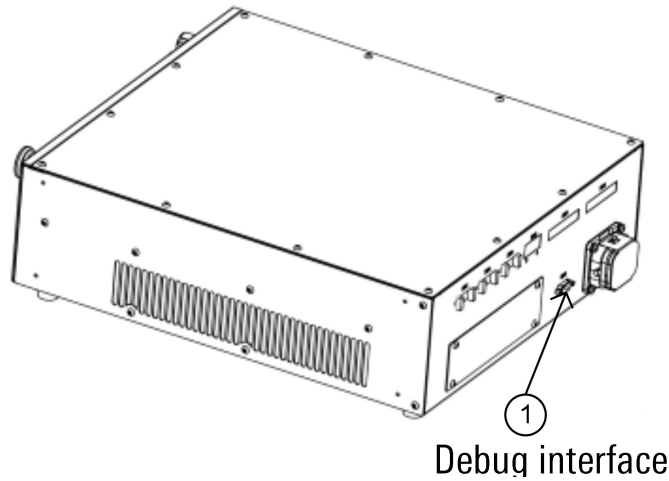

Figure 8-1 X025 multi-axis drive debugging interface of control cabinet
The multi-axis drive debugging interface X025of the inCube20 control cabinet is located on the rear panel of the control cabinet, as shown in Figure 8-1 . When adjusting multi-axis drive parameters, you must connect RS422 to the interface ① via USB cable.